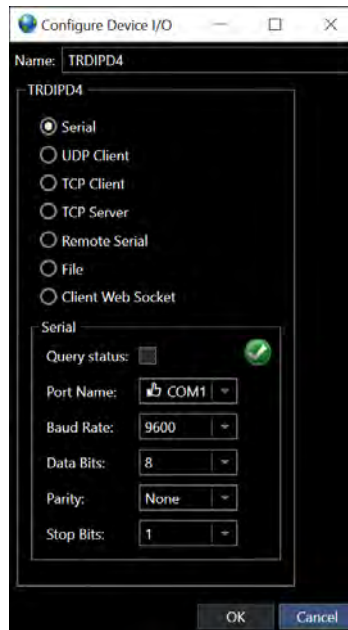

FIGURE 18-5 CONFIGURE I/O DEVICE WINDOW
- Click the  to add the device, this will open the Configure Device I/O window (see Figure 18-5).